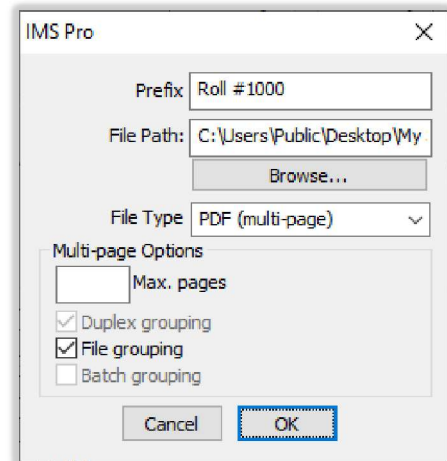

Figure 100
- p. The *IMS Pro* checkbox enables/disables additional features for scanning film. This requires an active SPA membership. If this box is checked, when the *Scan* button is selected the *IMS Pro* window will open. *Figure 100*